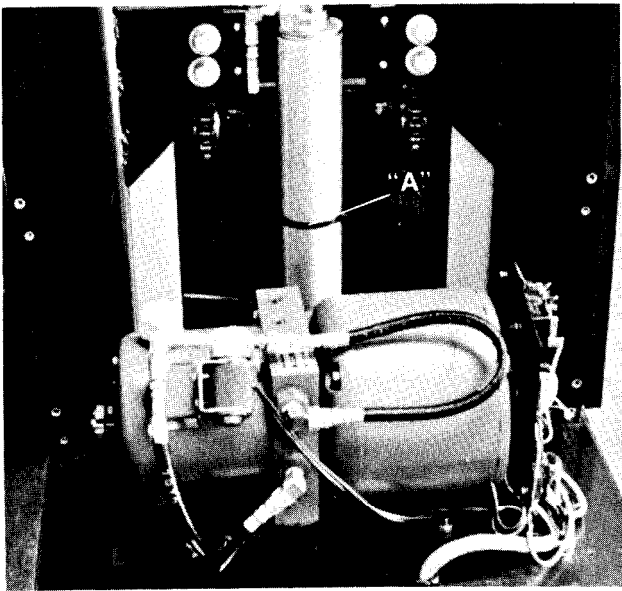

Fig. 38
2. Remove brace by removing (4) bolts with a 9/16" wrench.
3. Remove large nylon ties, Item A, Fig. 38, from cylinder.
9. Install the large nylon tie, Item A, Fig. 38, on the cylinder.